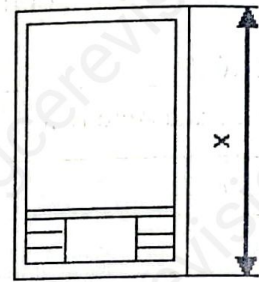

Figure 3
6. An A4 drawing paper is placed vertically. Indicate the dimension x in figure 3 below.